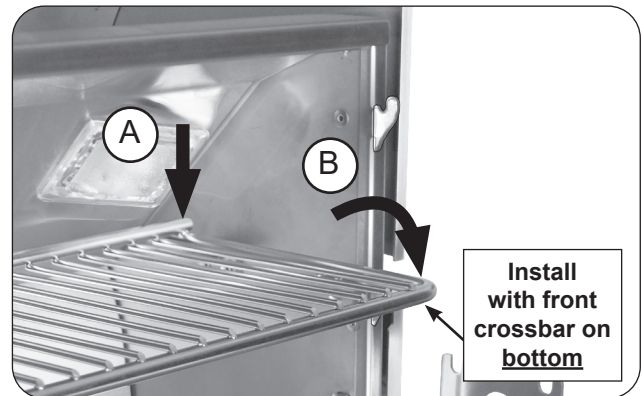

Fig. 34-2 Place warming rack for use
2. With the warming rack oriented as shown, carefully rest the rear of the rack onto the rear support plates (see Fig. 34-2, A), then lower the warming rack arms onto the lower hooks for use (see Fig. 34-2, B).